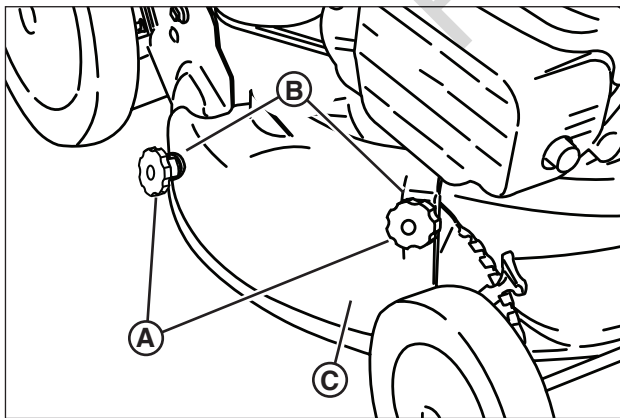

Figure 8: Removing the mulching cover
1. Remove the knob nuts (**A**, **Figure 8**) and internal/external tooth lock washers (**B**) securing the mulching cover (**C**) to the mower deck.